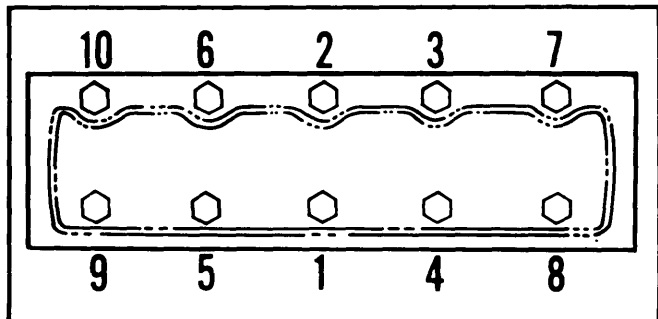

Fig. 3 Cylinder Head Tightening Sequence
2) Install all cylinder head bolts and finger tighten only. Gradually tighten bolts following the sequence in Fig. 3. Reverse removal procedure to complete installation.